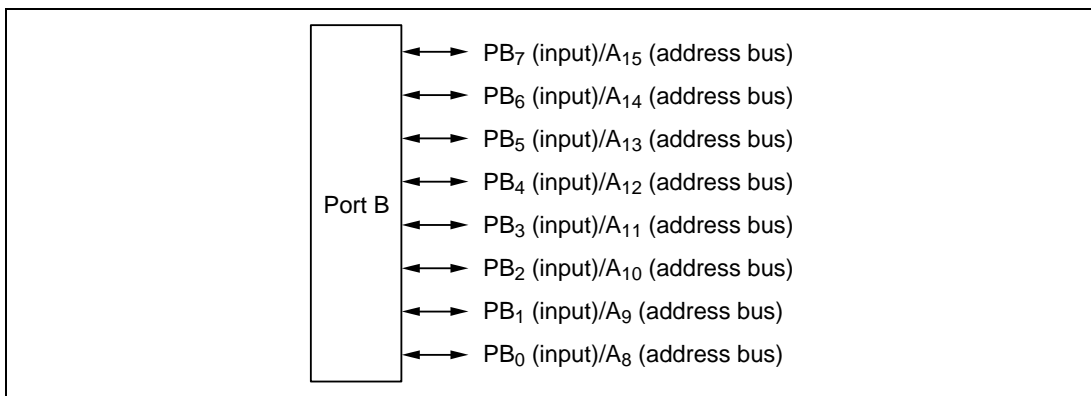

Figure 10-76 Pin Functions in Modes 2 and 4
(2) Pin Functions in Modes 2 and 4: Port B can be used for address output (A_{15} to A_8) or general-purpose input. A pin is used for address output if the corresponding PBDDR bit is set to 1, and for general-purpose input if this bit is cleared to 0. Figure 10-76 shows the pin functions in modes 2 and 4.